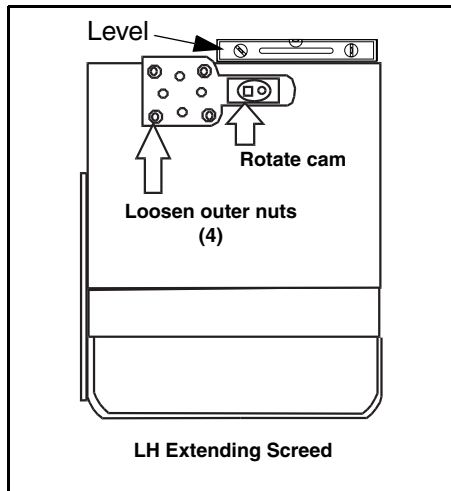

Figure 3 - 24 Adjusting Pre-Torque
- 3) Note the position of bubble on level when paver is at rest (Figure 3 - 24).